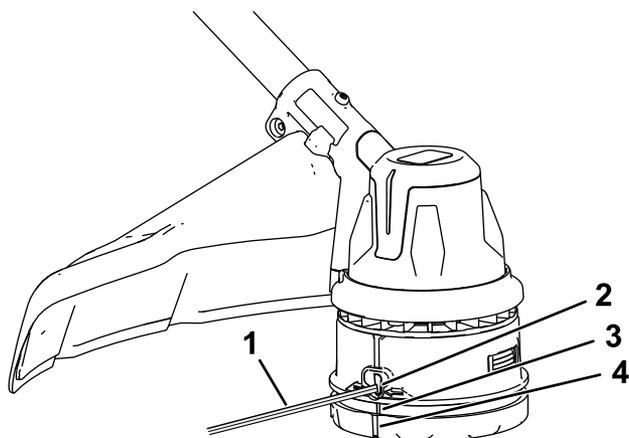

Figure 17
4. Press and turn the bump head in the direction shown by the arrows (clockwise) on the bottom of the bump head until the marks on the side of the bump head align with the marks beneath the eyelets (Figure 17).